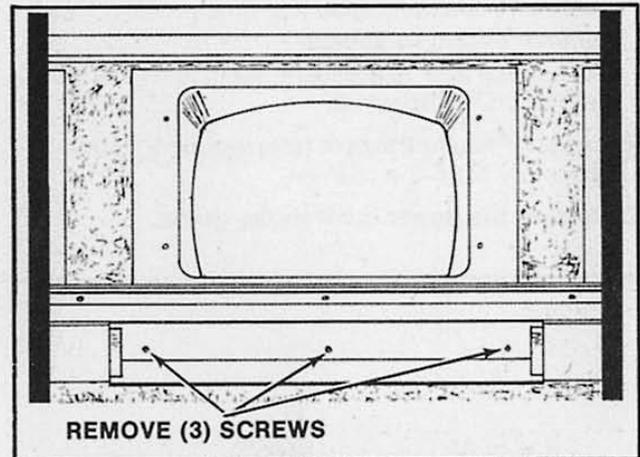

Figure 4-20 Removing Black Light Tube Mtg. Brkt. — Upright
- Remove the screws which secure the black light tube mounting bracket to the cabinet. See Figure 4-20.The mounting bracket is now loose and can be pulled out and slightly to one side until you can see the black light tube starter.